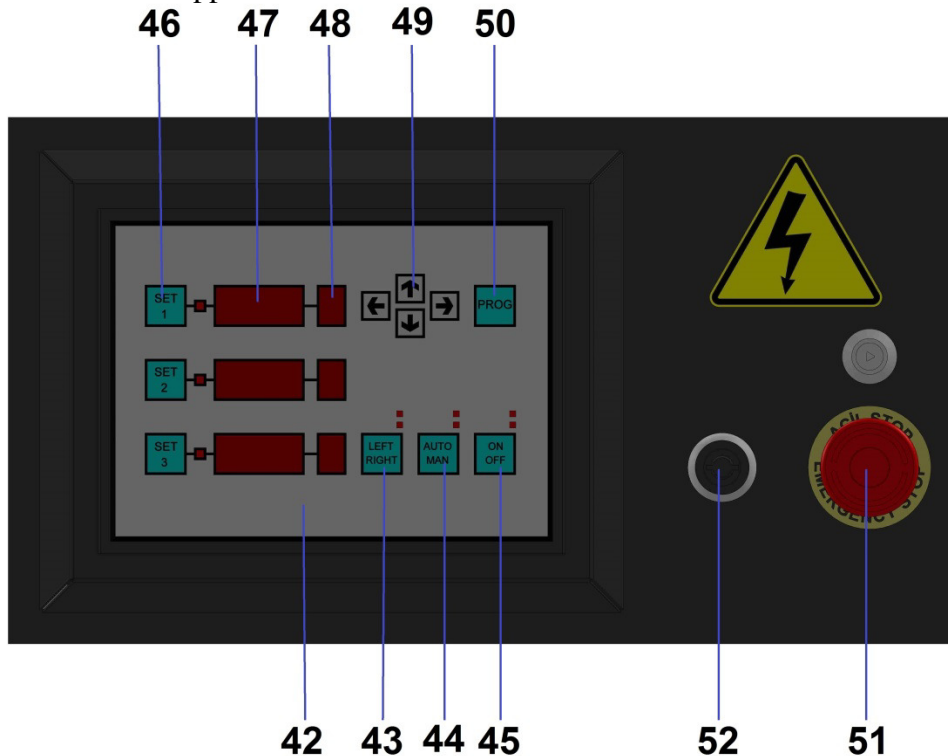

Figure 7 Digital control buttons
- After pressing on SET button on the control panel, input the required set row values by pressing on PROG button. The required angel value is entered to angle indicator (Figure: 7 No: 49) with up and down arrow keys (Figure: 7 No: 47). Select the piece indicator (Figure: 7 No: 48) by pressing right arrow key and enter the number of pieces. After entering the angle and piece values, select the next SET row with down arrow key. After entering the values save the settings by pressing PROG button. Maximum 9 value might be entered in piece indicator for each set row.
- Set the machine's operation rpm with the help of potentiometer (Figure: 7 No: 52). As the rpm decreases bending flange rotation speed will slow down and machine power will increase. As the rpm increases bending flange speed will be faster and machine power will decrease.
- After your settings are completed you can start serial bending by switching the MAN-AUTO button (Figure:7 No:44) to AUTO position.
- You can stop the machine in emergency cases by pressing the emergency stop (Figure: 7 No: 51) button on the control panel. When you restart, the machine will return to the beginning of the operation where it had stopped.